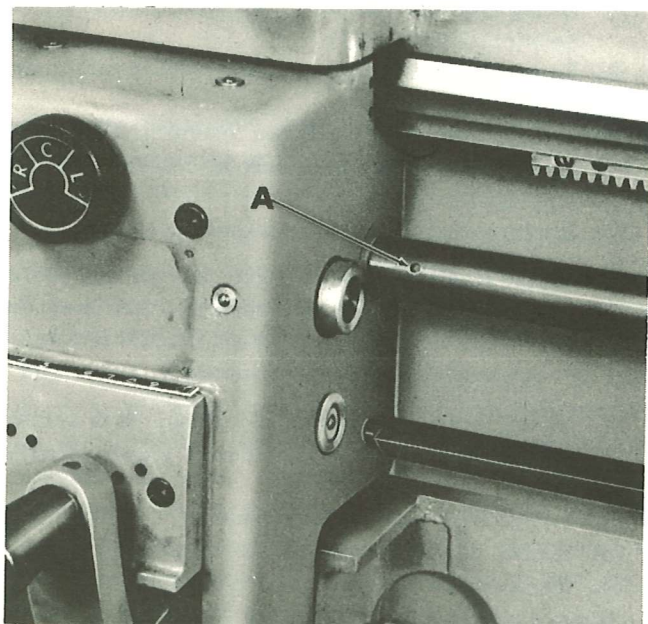

Figure 20
Shear pin, located at gear box end of lead screw (A, fig. 20), protects lead screw and gear box against overload. To replace broken shear pin:
3. Remove sheared pin (A, fig. 20) from gear box shaft and lead screw.